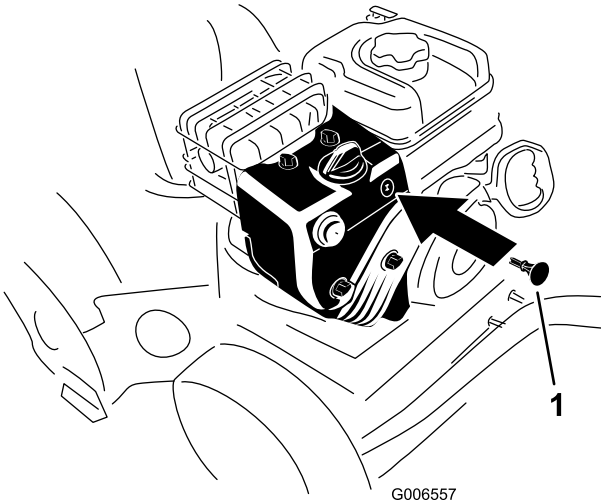

Figure 28
3. Insert the ignition key (Figure 28).